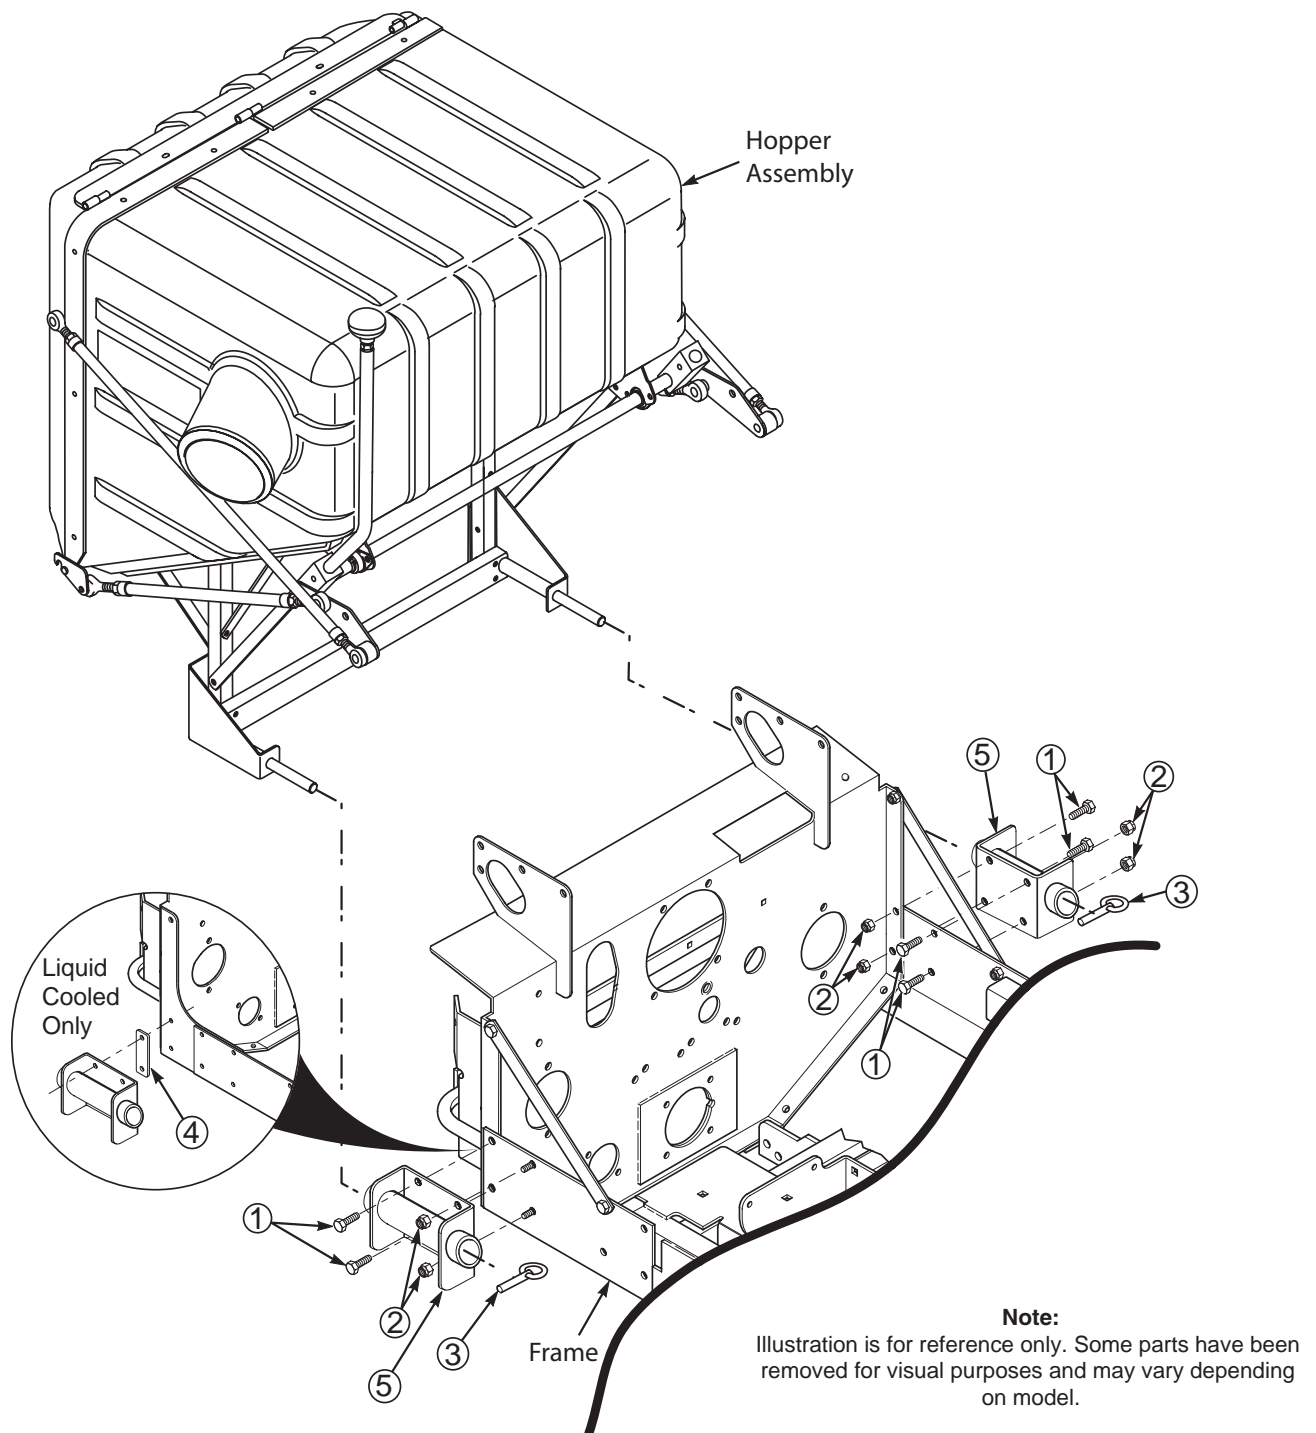

FIGURE 3-7
13. Install the hopper mounting brackets (p/n 451512 & p/n 451595) to the outside of the frame on the rear of the machine using 3/8-16 x 1" hex head bolts (p/n 04001-19) and 3/8-16 elastic stop nuts (p/n 04021-09). See Figure 3-7, Page 7.
15. With the help of an assistant, install the hopper assembly into the hopper mounting brackets. See Figure 3-7, Page 7.